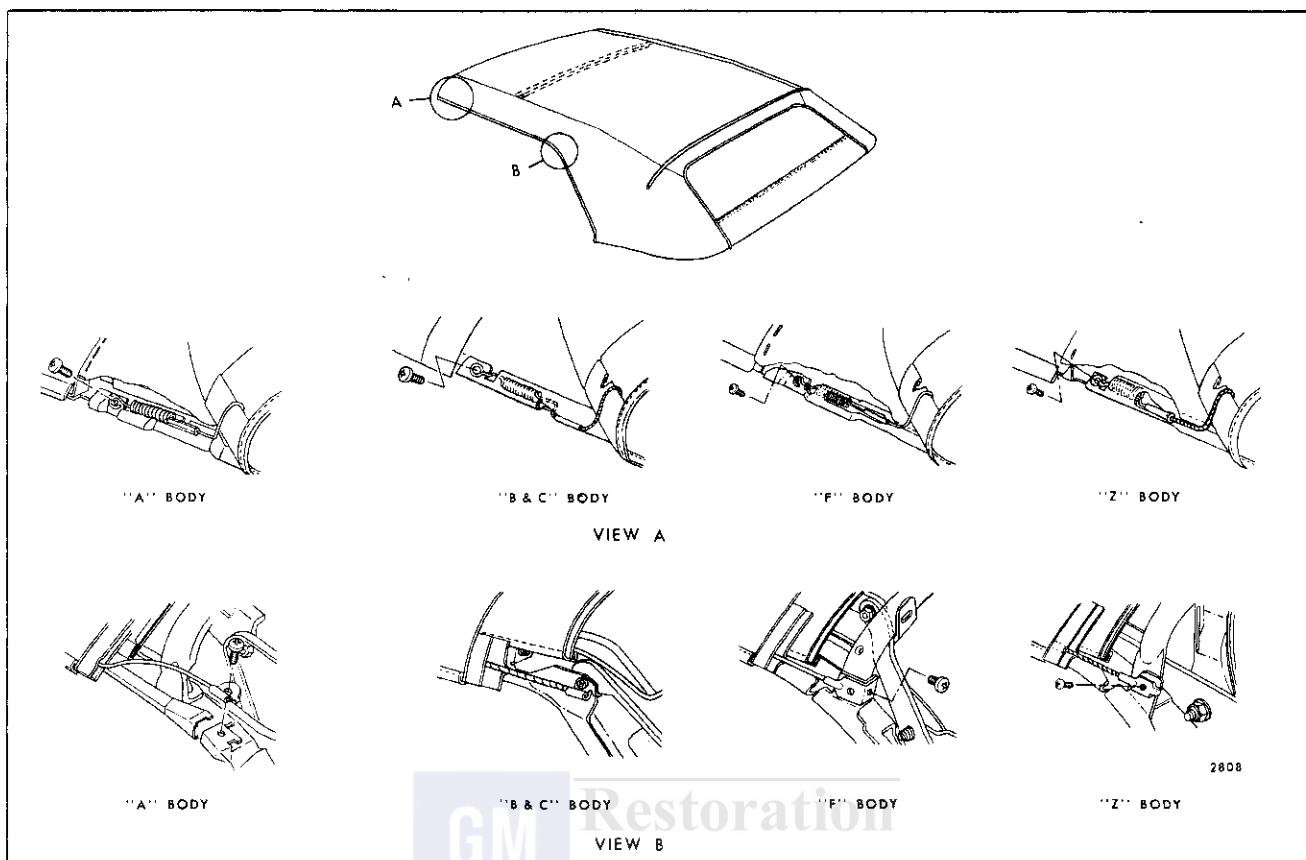

Fig. 13-2—Convertible Top Material Hold Down Cable
12. At right and left side roof front and rear rails, remove hold-down cable front and rear attaching screws. (See Views "A" and "B" in Fig. 13-2.)